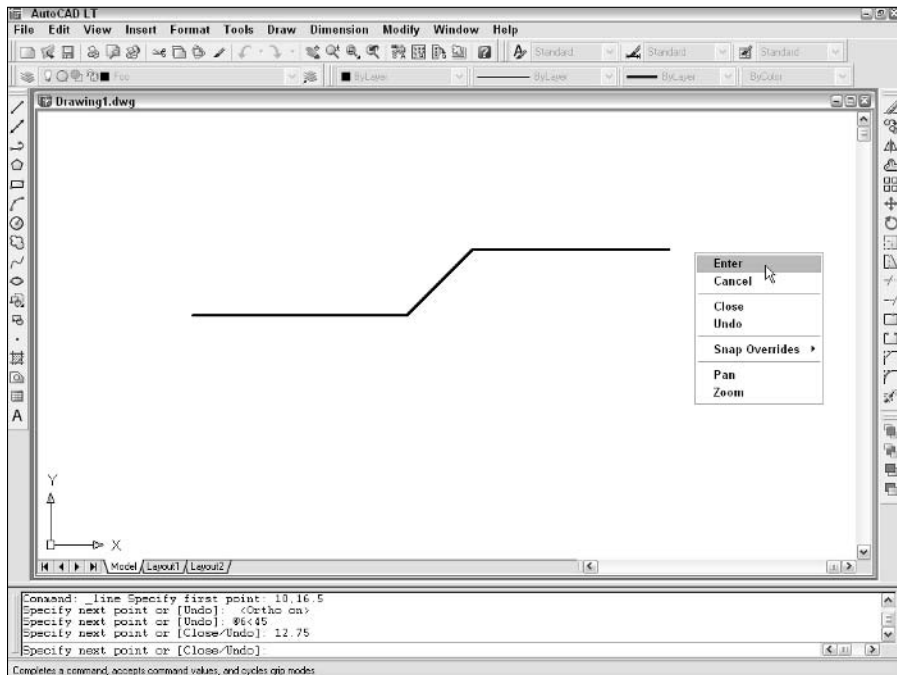

Figure 6-1:
- Press Enter, or right-click anywhere in the drawing area and choose Enter (as shown in Figure 6-1) to leave the figure open.